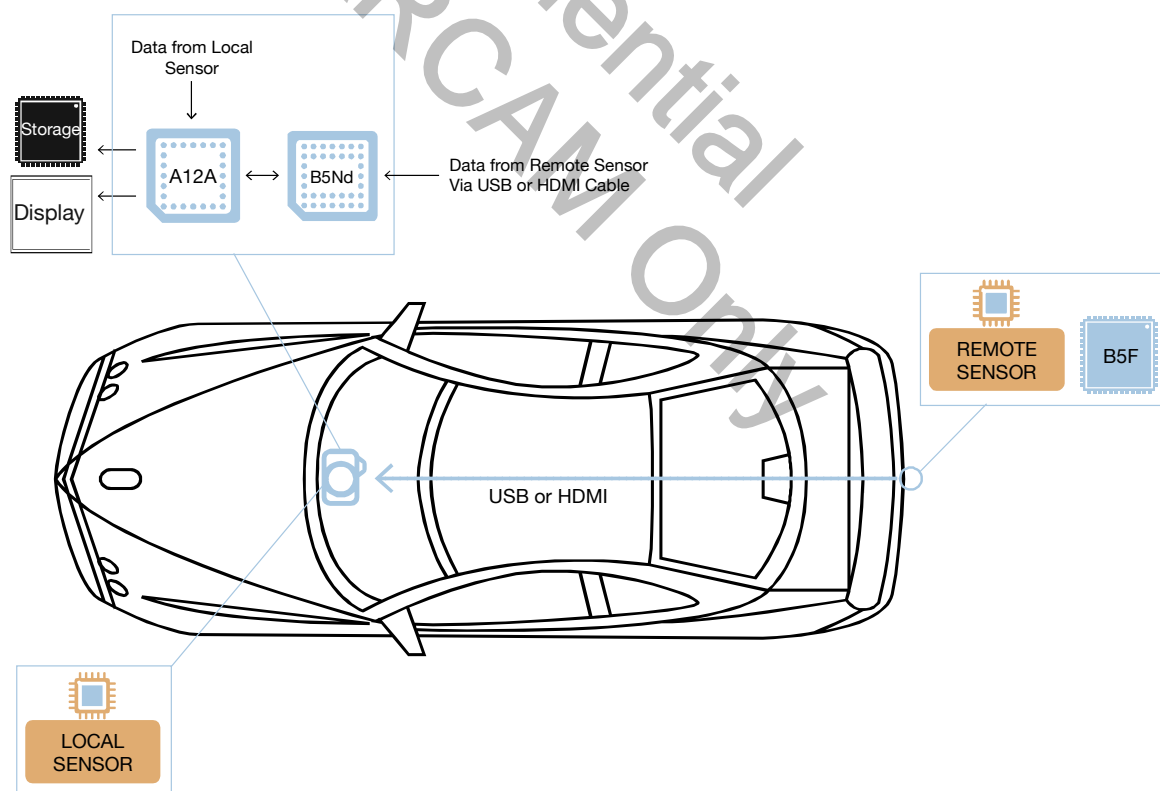

Figure 1-4. A12A75 Automotive Camera Application: Local / Remote Sensor Configuration (B5-Equipped).
2. Inputs from both a local sensor and a remote sensor are sent to the A12A75 SoC (Figure 1-4)